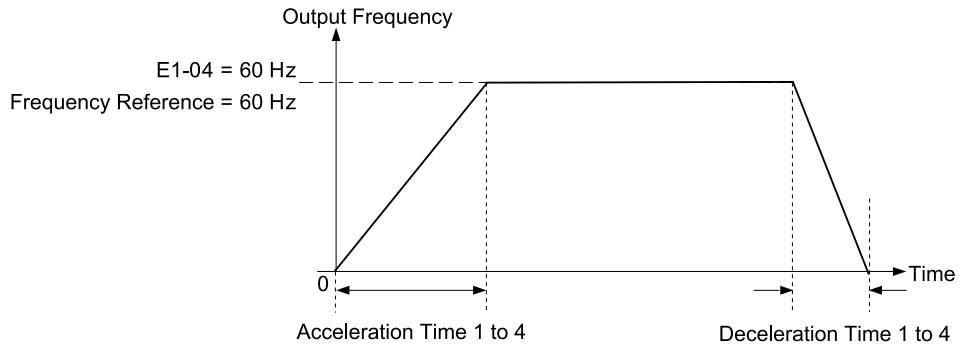
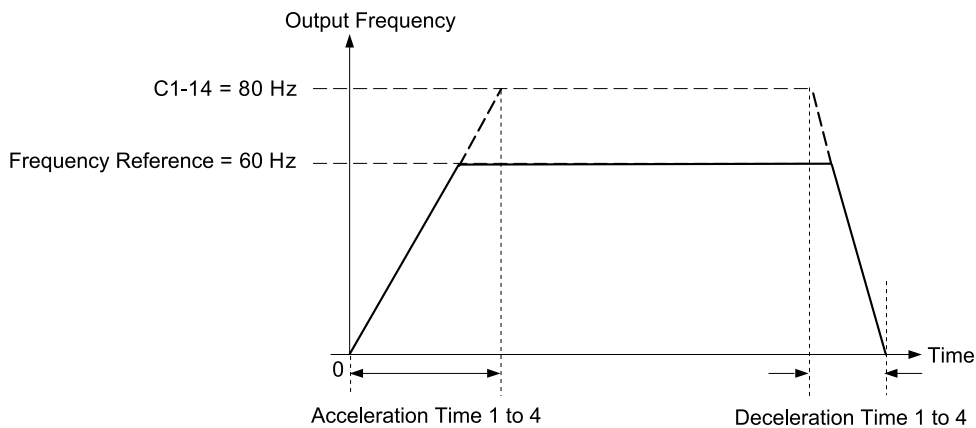

Figure 12.29 Example 1: Acceleration/Deceleration Rate (When C1-14 = 0 Hz, E1-04 = 60 Hz, and the Frequency Reference is 60 Hz)
Figure 12.31 Example 3: Acceleration/Deceleration Rate (When C1-14 = 80 Hz, E1-04 = 60 Hz, and the Frequency Reference is 60 Hz)
- Figure 12.29 to Figure 12.31 show the accel/decel times when C2-01 to C2-04 [S-Curve Times @ Start/End of Accel/Decel] = 0.00 s.